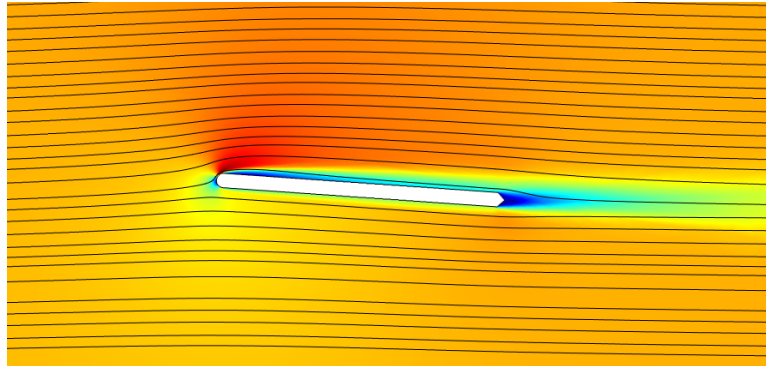

FIG. 4 Schematics for consol problem 2 with the airfoil.
2. Now we will use comsol to compute lift on a flat plate airfoil. Create a large domain, about 20 units long by 10 high seems to work fine. Cut out a thin flat plate airfoil with a small inclination angle (start with about 4 degrees). Make the airfoil  $\ell = 2$  units long and 0.1 units thick. Give the leading and trailing edges a little fillet to make the flow smoother around the entrance/exit of the airfoil, see Figure 4.